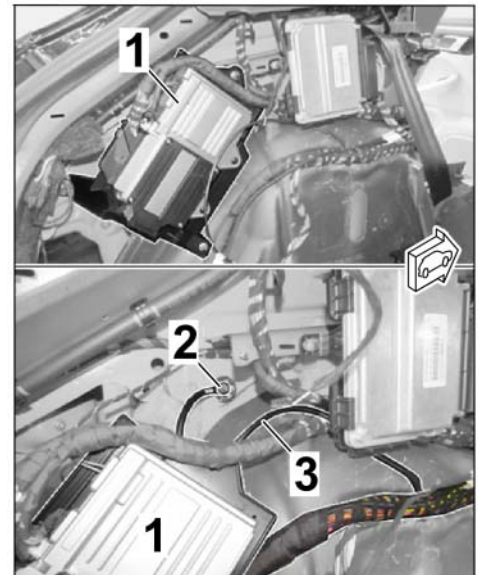

Figure 37
- 3.1.3 Install cable ring eyelet A6 (ground) on ground pin MB 43 (⇒ *Figure 37*)